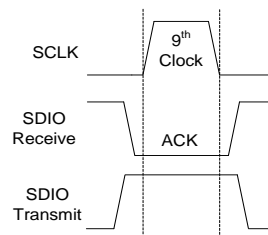
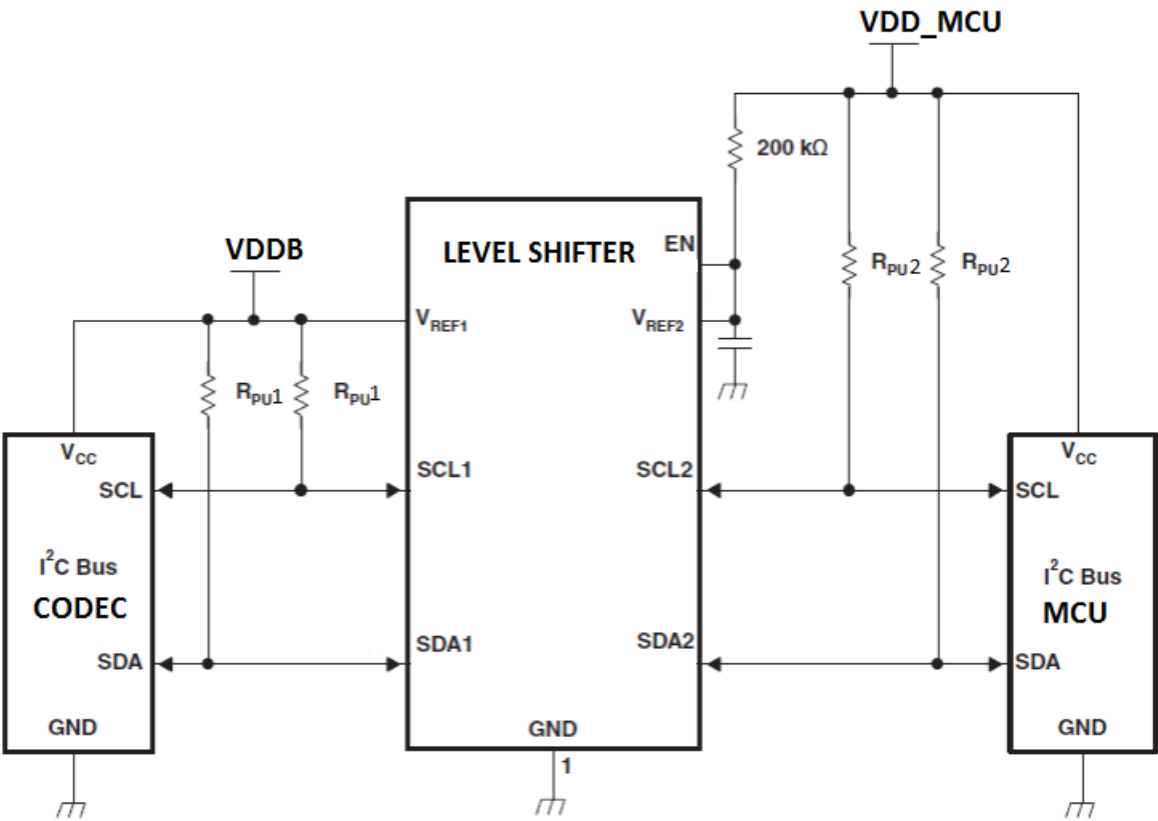

Figure 16: Valid Acknowledge
Figure 18: Typical I2C level shifter circuit
- Sometimes, I2C needs to use level shifter between different supplies domains. During Acknowledge, such as Figure 16, receiver side (CODEC) will pull low, and transmit side (MCU) is disable and pull high by pull high resistor. Because NAU88L21 SDIO can sink 2mA by default setting (maximum up to 8mA,) shown as below Figure 18, R_{PU1} and R_{PU2} need to be select such that total current $V_{DDB}/R_{PU1} + V_{DD_MCU}/R_{PU2}$ during Acknowledge should not be too large to exceed SDIO sinking capability.